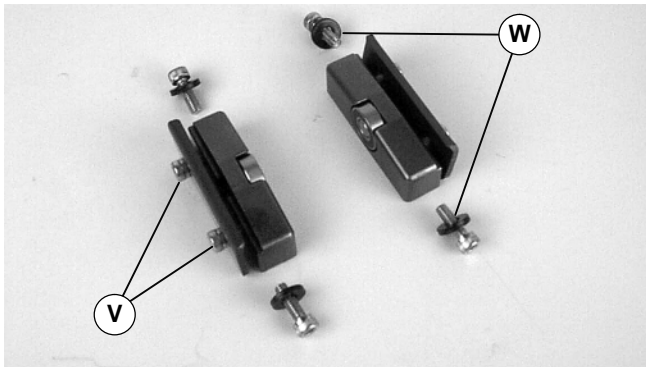

Figure 11
2. Loosen screws (V of Figure 11) and remove screws and washers (W).